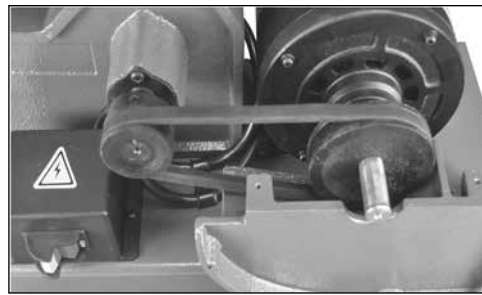

Figure 3
5. The large Belt Pulley (#42) is on the motor arbor and the smaller Pulley (#87) is on the arbor that extends from the frame to drive the sanding belt. Slip the V-Belt (#38) onto the pulleys as shown in figure 3.